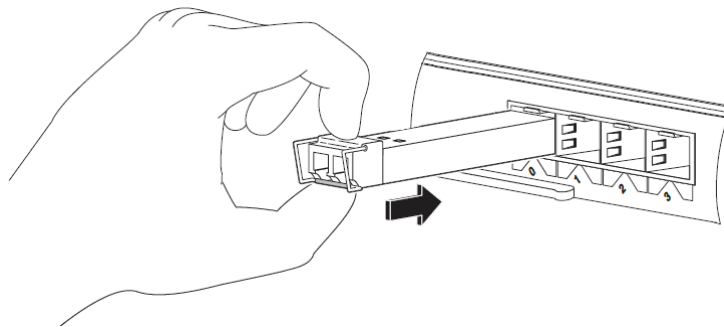

Figure 9: Installing an SFP+ Module into a port
5. Line up the module with the port and slide it into the port as shown in Figure 9.